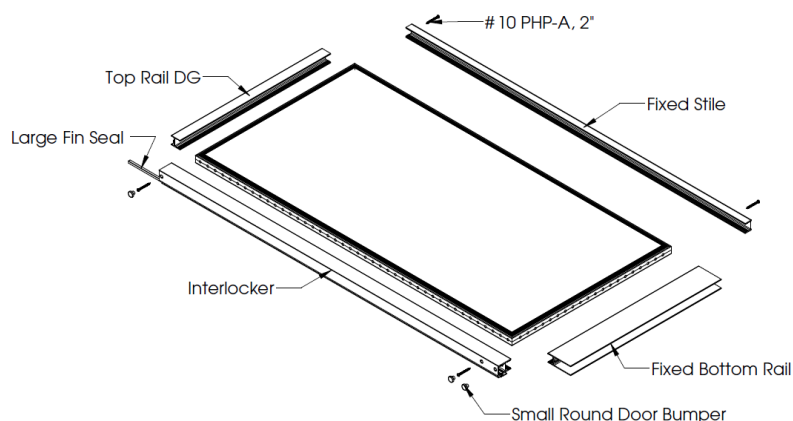

Figure 4:
4. Secure the stiles to the rails with (4) #10 x 2" pan head screws (Figure 4).